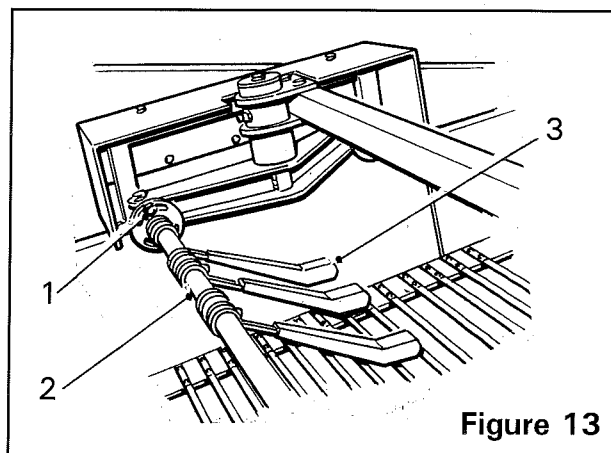

Figure 13
1. Slacken the clamp bolts (*item 1, figure 13*).
2. Rotate the mounting tube (*item 2, figure 13*) until the fingers (*item 3, figure 13*) are at the required height above the web.
3. Retighten the clamp bolts (*item 1, figure 13*).